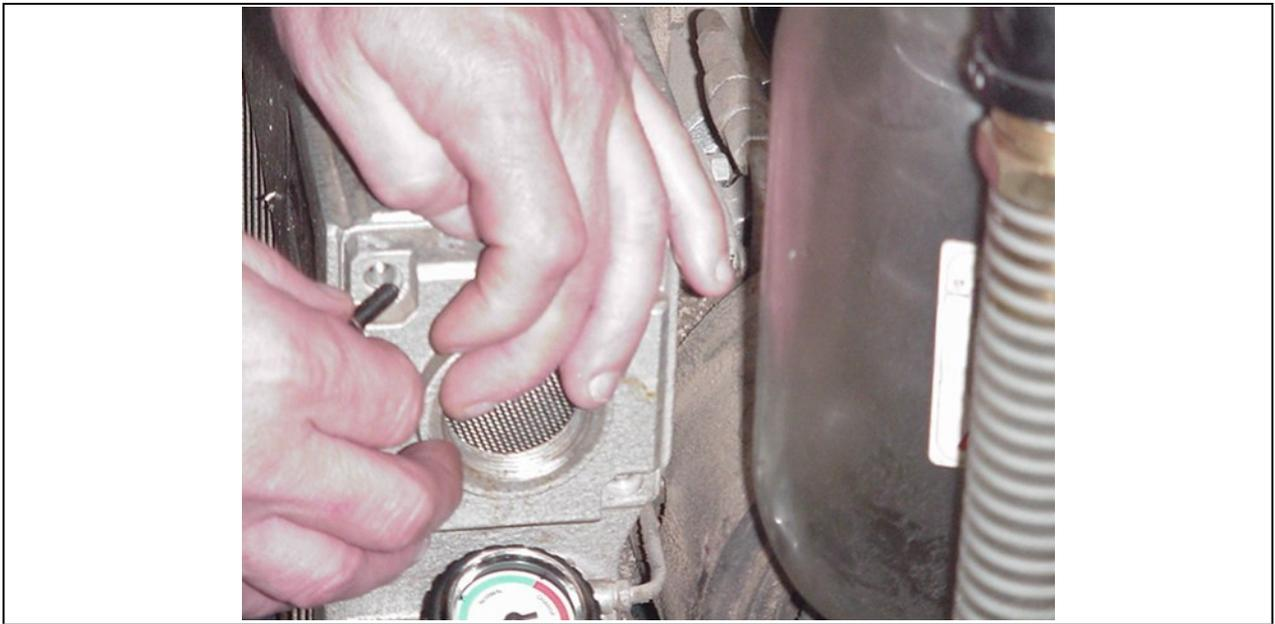

Figure 3 Removing Exhaust Housing
Remove the four (4) socket head cap screws (Ref. 155, 146) retaining the exhaust port housing (see Figure 3). Pull the housing off the exhaust box and set it aside.